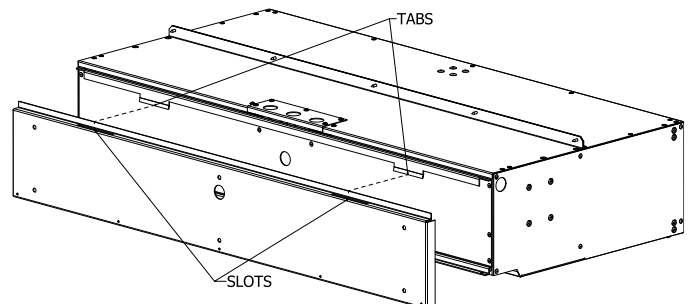

FIG. 3
3. Mount the product such that the discharge is 1" above the opening and all obstacles (FIG. 3). Use four (4) 1/4"-
4. Alternatively, the unit can be installed to the wall with the included removable mounting plate. Remove the mounting plate by removing the two (2) screws and center the plate over the opening; the air curtain shall be equal to or greater than the width of the opening.
6. Align the tabs on the rear of the unit with the slots provided on the wall mounting plate (FIG. 3). The bottom flange on the unit must also drop in the bottom channel of the wall mounting plate. Reinstall the two screws to secure the unit in place.